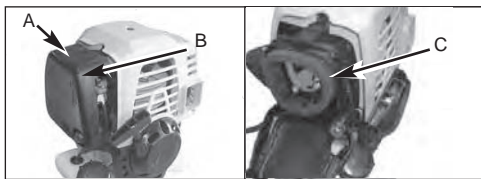

Fig. 16
1. Remove button (A) holding air filter cover in place, remove cover (B) and lift filter (C) from air box (Fig. 16).